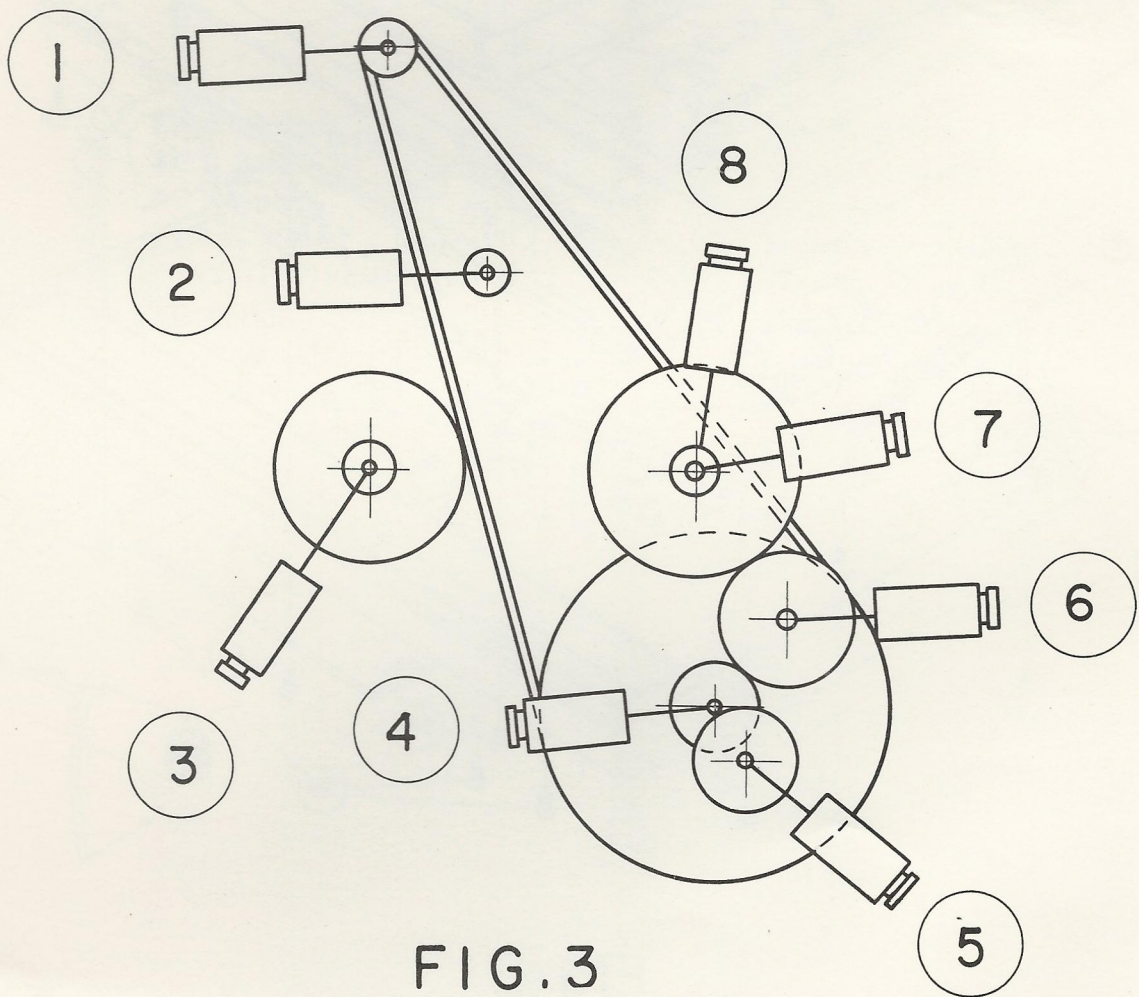

FIG. 3
(1) Lubrication (Refer figure 3).
Since oilless metal is used in the revolving parts, lubrication is not required for a long period. However, supplying oil to the parts indicated in figure 3 will keep bearing at the best condition and render mechanism more durable.